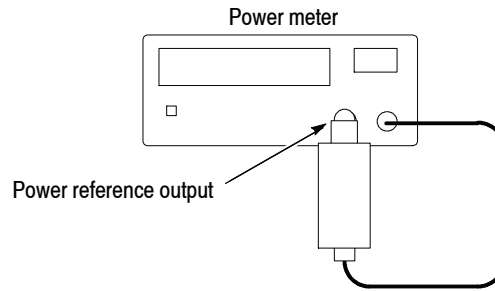

Figure 1-6: Hookup for calibrating the power sensor
- d. Connect the RF input of the power sensor to the power reference output of the power meter. See Figure 1-6 on page 1-20.